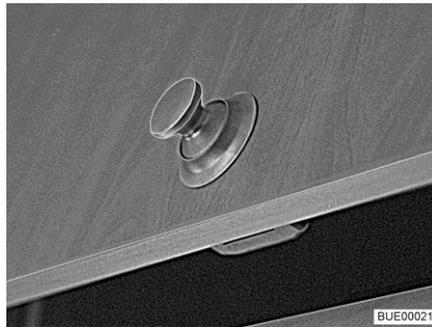
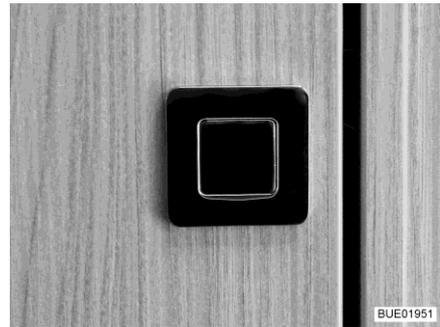

Fig. 61 Furniture flap with push button (round) (round)
Fig. 62 Furniture flap with push button (square)
- Press inner part of the lock. The push button (Fig. 61 or Fig. 62) jumps out.